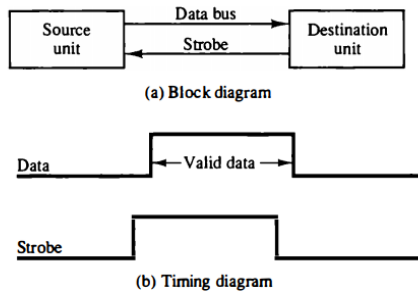

Figure 4 Destination-initiated strobe for data transfer.
- **Figure 4** shows a data transfer initiated by the destination unit. In this case the destination unit activates the strobe pulse, informing the source to provide the data.
- **Similarly**, the strobe of Fig. 4 could be a memory-read control signal from the CPU to a memory unit.